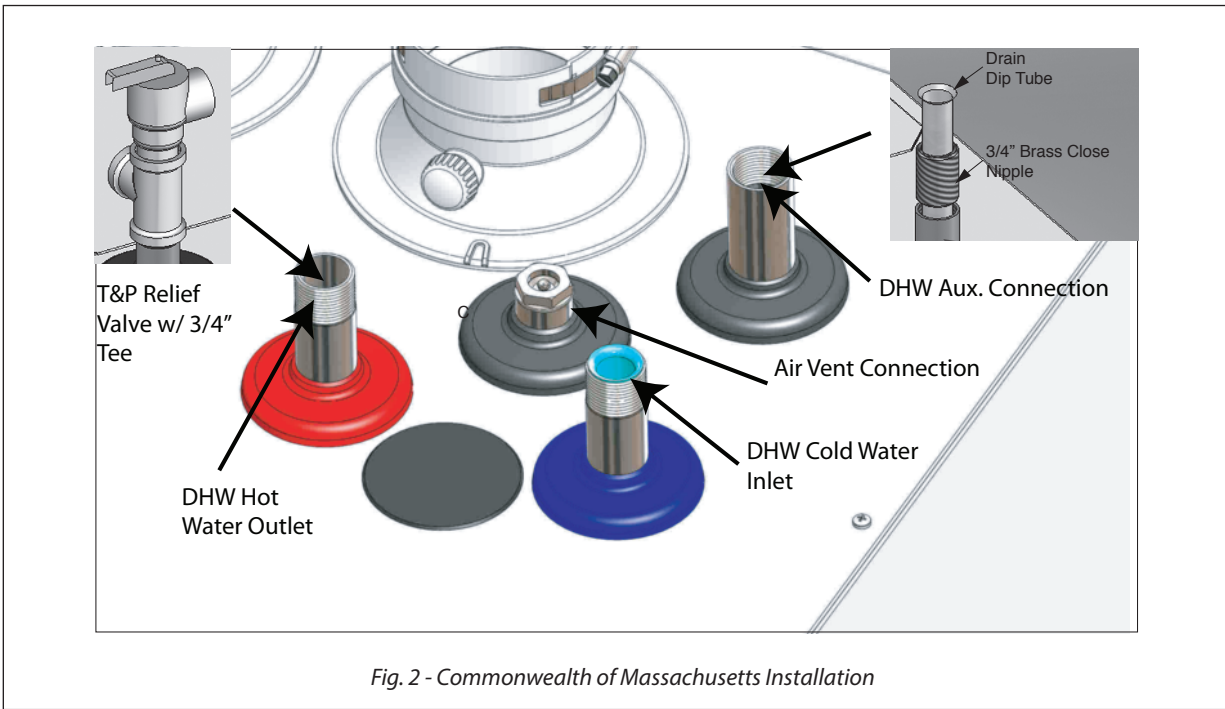

Fig. 2 - Commonwealth of Massachusetts Installation
Follow this procedure for jurisdictions requiring a vacuum breaker to be installed on the domestic cold water inlet. Install the T&P in the run (straight through leg) of a tee located at the domestic hot water outlet. Use a long element T&P relief valve, as shown in *Fig. 2 above*.
- Thread a 3/4" close nipple onto the Auxiliary connection and insert an open-end dip tube into the Auxiliary connection on top of water heater. As shown in *Fig. 2 on page 4*.